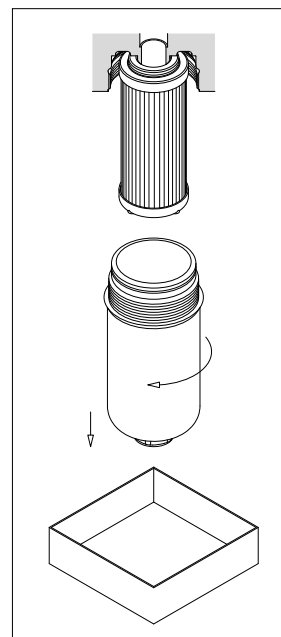

fig. 12
- (Fig. 12) If no drain plug is provided, unscrew the filter bowl after placing a vessel to collect the operating fluid